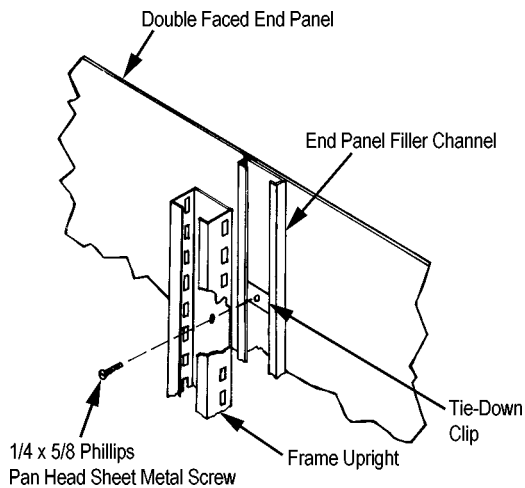

FIGURE 34A
1. Align end panel filler channel with welded frame upright. See Figure 34A. Attach panel to upright with 1/4 x 5/8 Phillips pan head sheet metal screws and tie-down clips – two (2) each for units 66" and higher.